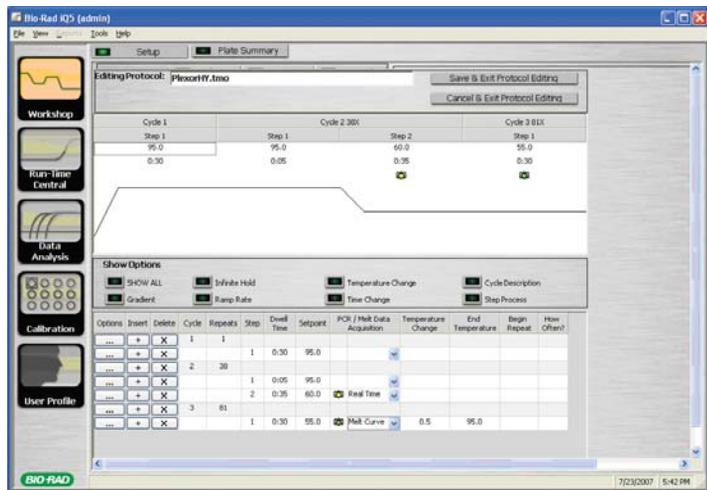

Figure 9. The iQ™5 Protocol Editor, displaying the correct Plexor® HY protocol.
2. Define the Plexor® HY profile by editing the default settings of the protocol template in the table at the bottom of the Protocol Editor window (Figure 9):